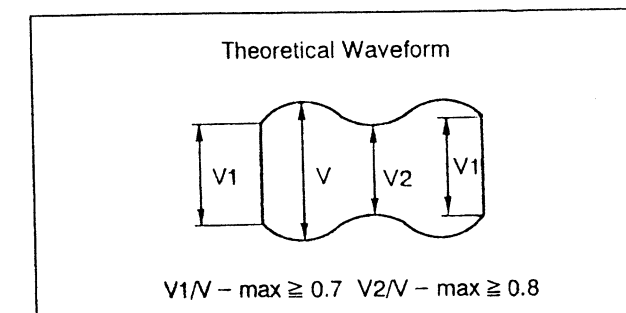

Fig. M18-1
2. Play back the monoscope portion of the alignment tape and confirm that the RF envelope appears, as in Fig. M18-1.